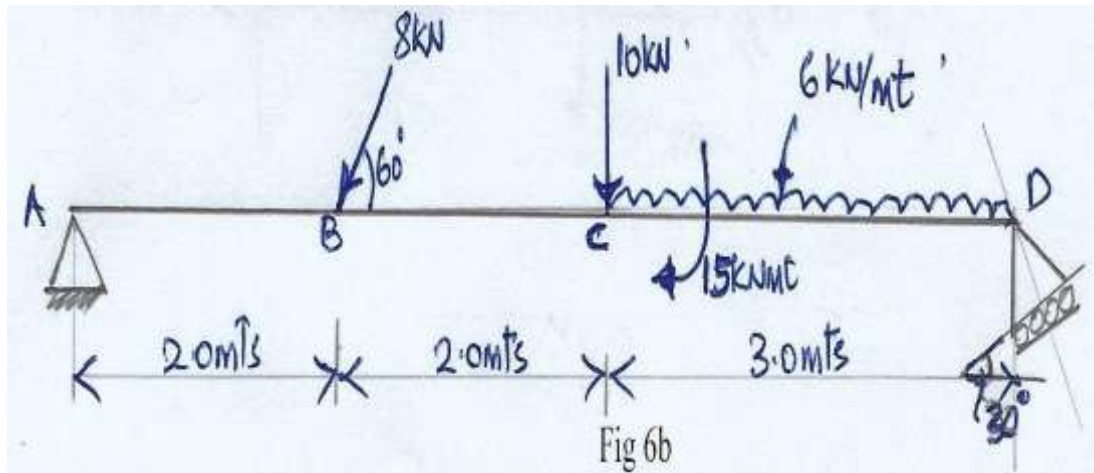

Fig. 6b
- (b) Determine the support reactions for the beam shown in Fig. 6b 12